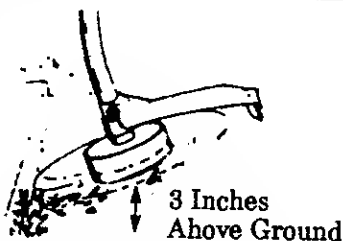

Figure 13
1. **TRIMMING** - Figure 13. Hold the bottom of the trimmer head about 3 inches above the ground and at an angle. Allow only the tip of the line to make contact. Do not force the trimmer line into the work area.